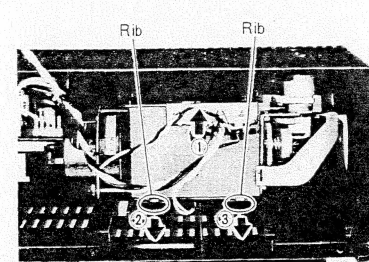

Fig. 5
3. Remove the clock in the direction of the arrow① by pushing the ribs in the direction of the arrows, nos. ② and ③, as illustrated in fig. 5.